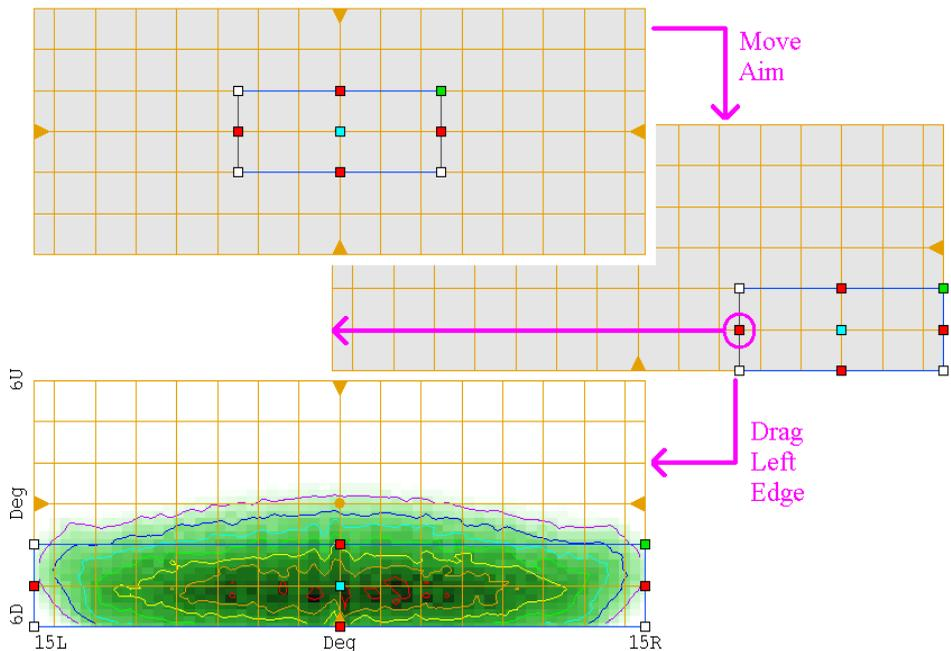

Figure 1.28 Adjusting aim of segment
- 4 Adjust the aim for the new segment as shown in Figure 1.28.